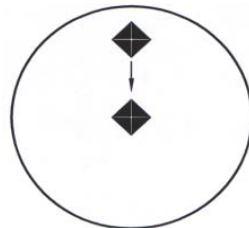

Figure 6-9 Image is above the
1. The image is above the center. Refer to Figure 6-9.